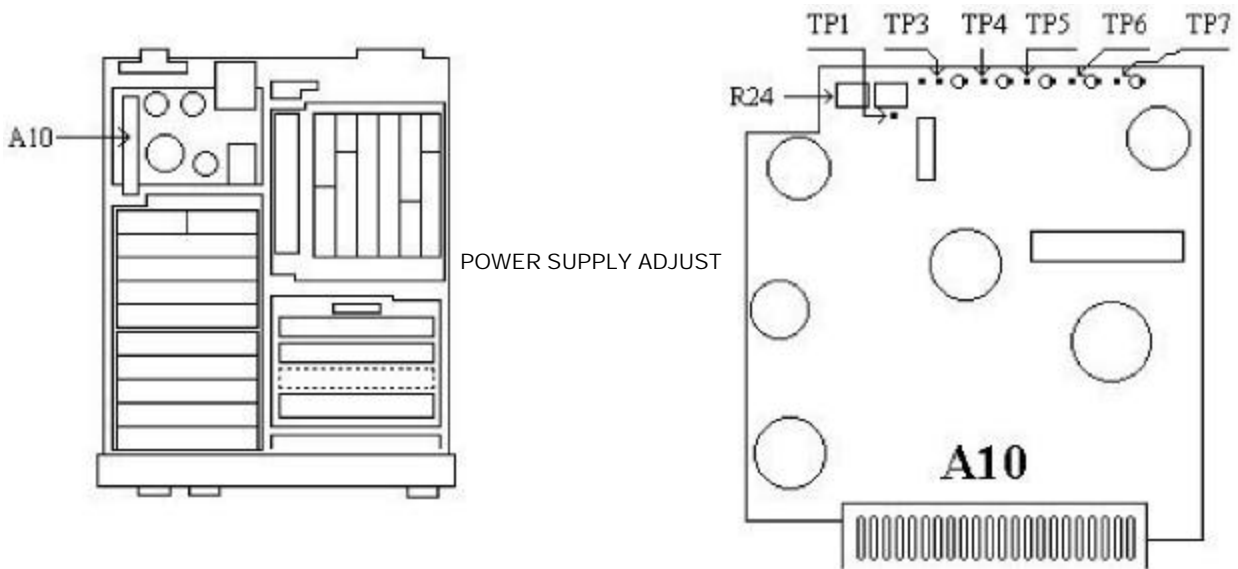
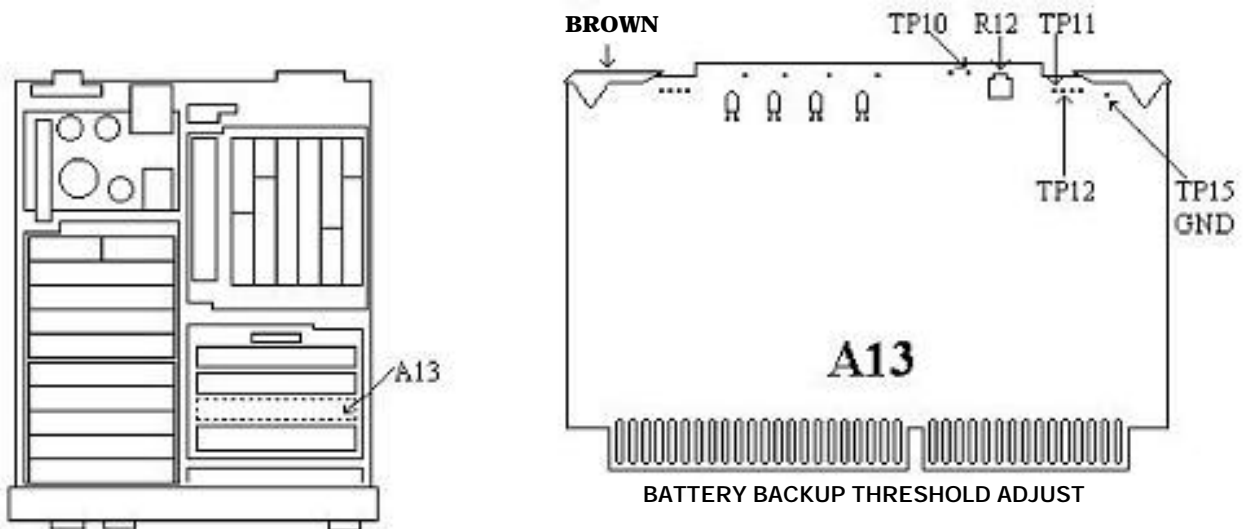

Figure 19. A10 board.
Figure 20. A13 board.
- (1) Connect digital multimeter between TP1 (fig. 19) (ground) and TP3 (fig. 19) (positive), and set digital multimeter to read V dc.
- (2) If digital multimeter indication is not between 14.99 and 15.01 V dc perform **b** below.
- (3) Move positive lead from TP3 to TP4 (fig. 19) and verify digital multimeter indicates between -15.2 and -14.8V dc.
- (4) Move positive lead from TP4 to TP5 (fig. 19) and verify digital multimeter indicates between 4.9 and 5.2 V dc for serial number 2305A to 2616A and between 5.1 and 5.2 V dc for serial number 2618A and above.
- (5) Move positive lead from TP5 to TP6 (fig. 19) and verify digital multimeter indicates between -4.9 and -5.2 V dc for serial number 2305A to 2616A and between -5.4 and -4.9 V dc for serial number 2618A and above.
- (6) Move positive lead from TP6 to TP7 (fig. 19) and verify digital multimeter indicates between 40.5 and 42.5 V dc.
- (7) Disconnect digital multimeter from A10 board.
(8) Connect digital multimeter to A13TP10 (fig. 20) (positive) and A13TP15 GND (fig. 20) (negative).
(9) Measure and record dc voltage as level No.1.
(10) Move positive lead from A13TP10 to A13TP12 (fig. 20) and record dc voltage as level No. 2.
(11) Calculate 2/5 of level No. 1 and 1/6 of level No. 2.
(12) Multiply the lowest voltage calculated in (11) above by 0.95 and record as threshold.
(13) Move positive lead from A13TP12 to A13TP11 (fig. 20) and adjust A13R12 (fig. 20) until digital multimeter indicates within $\pm 0.05V$ of threshold value. (R)
(14) Disconnect equipment setup.
b. Adjustments. Adjust A10R24 (fig. 19) for a digital multimeter indication of 15 V ± 0.01 V dc. (R)